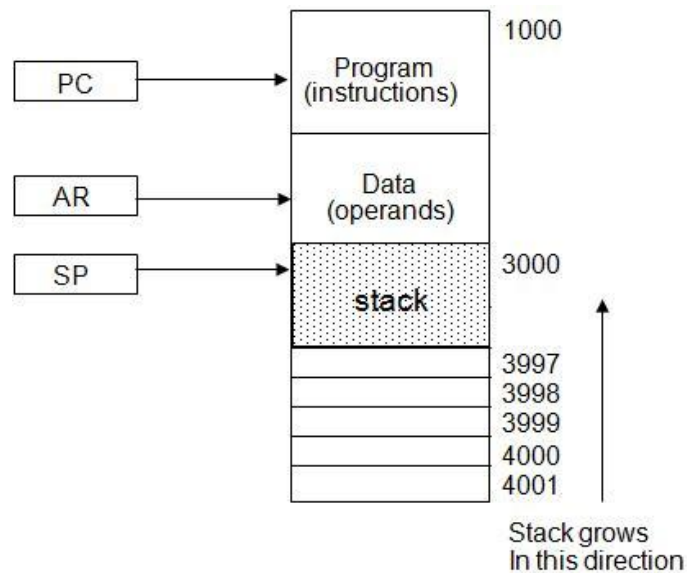

Figure 5.2: Computer memory with program, data, and stack segments
- Figure 5.2 shows a portion of computer memory partitioned into three segments: program, data, and stack.
- As shown in Figure 5.2, the initial value of SP is 4001 and the stack grows with decreasing addresses. Thus the first item stored in the stack is at address 4000, the second item is stored at address 3999, and the last address that can be used for the stack is 3000.
- The two microoperations needed for either the push or pop are (1) an access to memory through SP, and (2) updating SP.
- In figure. 5.2 the stack grows by decreasing the memory address. The stack may be constructed to grow by increasing the memory also.